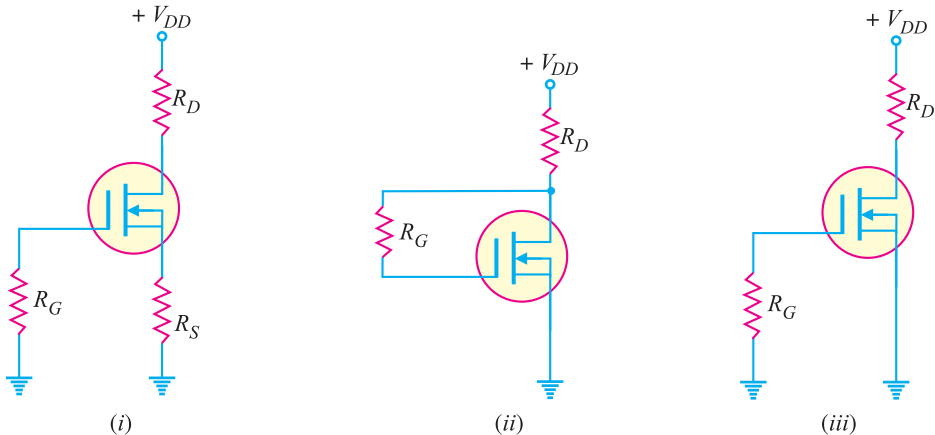

Fig. 19.66
4. For the *JFET* amplifier shown in Fig. 19.66, draw the d.c. load line.
8. Determine in which mode each *D-MOSFET* in Fig. 19.66 is biased.